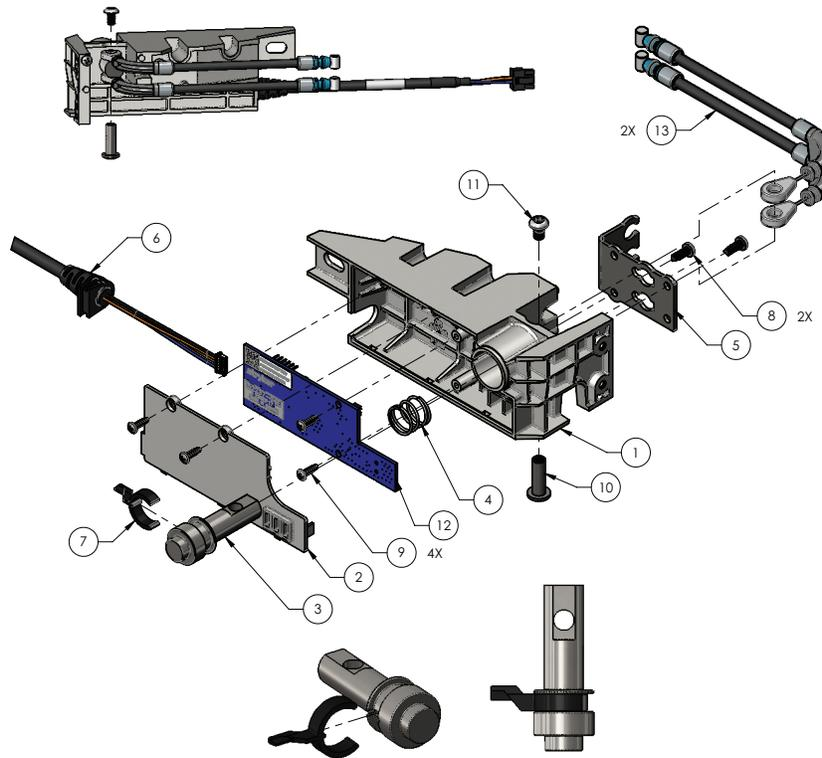

Figure 23 – DPM board replacement, foot
13. Using a #2 Phillips screwdriver, remove and save the two screws (9) that secure the DPM cover (2). Remove and save the cover (Figure 23).
14. Using a #2 Phillips screwdriver, remove and save the two screws (9) that secure the DPM board (12) to the DPM assembly (Figure 23).